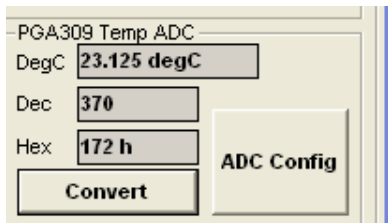
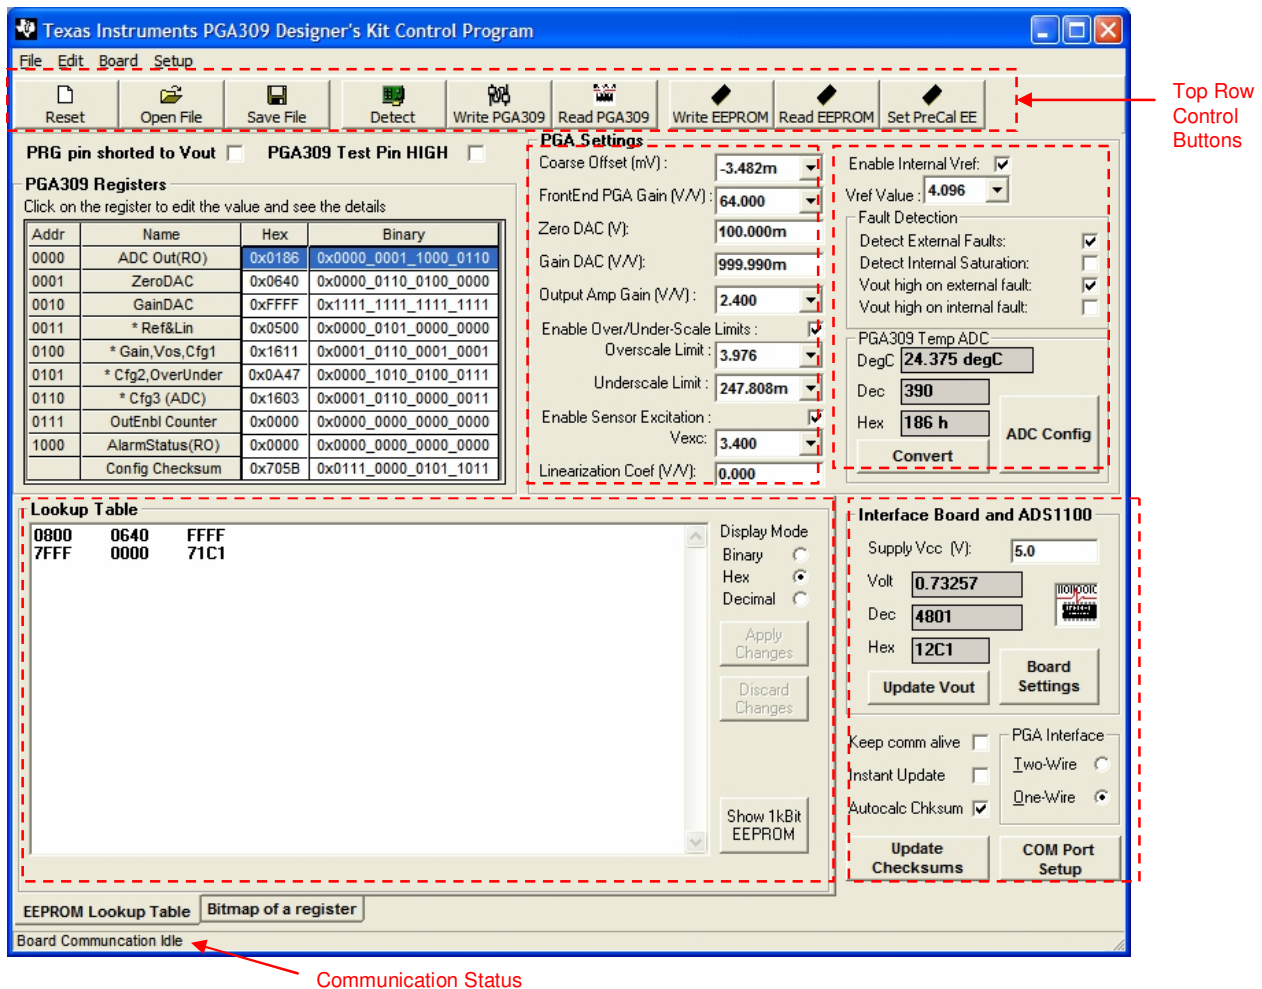
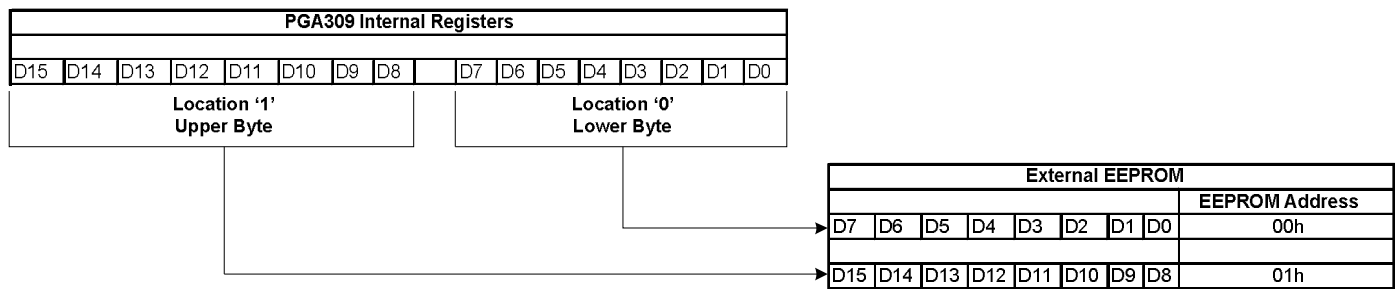

Figure 16: Internal Temperature Reading
Figure 17: Main Window
Figure 20: PGA309 Internal Registers to PGA309 External EEPROM Mapping
8) In the Main Window, under “PGA309 Temp ADC”, click on “Convert” (see Figure 16).
9) Temperature reading in °C should be the PGA309 ambient +/-2°C. Readout will be in Main Window under “PGA309 Temp ADC” section as shown in Figure 16.
Figure 17 depicts the Main Window for the Board Control Software. Subsections of the Main Window (outlined by dashed lines) as well as the “Top Row Control Buttons” and “Board Communication Status” will be described in detail in sections 7.1-7.10.
When the “EEPROM Lookup Table” is selected on the bottom Tab in the Main Window the Temperature Coefficients stored in the PGA309 external EEPROM from the last “Read EEPROM” are displayed in the “Lookup Table” section of the Main Window. These values can be displayed by selecting the desired format as Binary, Hex or Decimal under “Display Mode” in the “Lookup Table” section. See Figure 17. If the entire contents of the EEPROM is to be viewed or edited, in Hex and ASCII only, then click on “Show 1kBit EEPROM” in the “Lookup Table” section of the Main Window. Figure 16 shows the resultant pop-up window which displays the entire external PGA309 EEPROM contents in Hex. Remember the EEPROM contents are mapped **least significant byte first** relative to PGA309 16-Bit registers as shown in Figure 20.